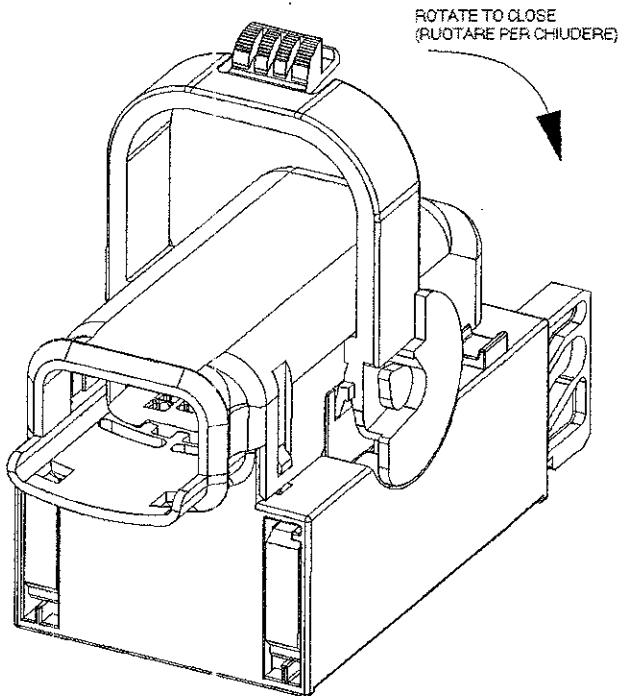

Figure 25 (Figura 25)
- Rotate the lever up to the closing position and check the correct lock of the button. (See Figure 25 and 26).